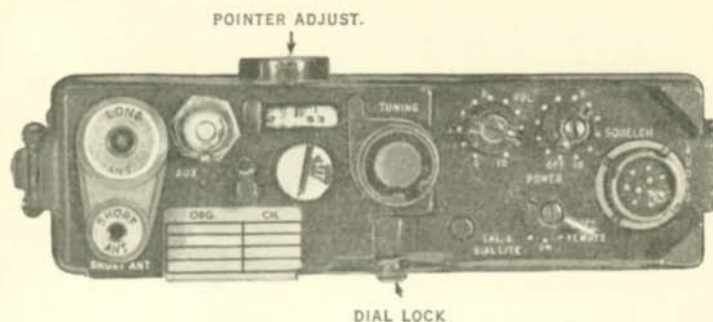

Figure 4 - Control Panel AN PRC 10
- (i) If short range working only is required, remove the short antenna (antenna AT-272 PRC see figure 3) from the bag. Screw this antenna (aerial) into the control panel socket marked "Short Ant" (See figure 4).